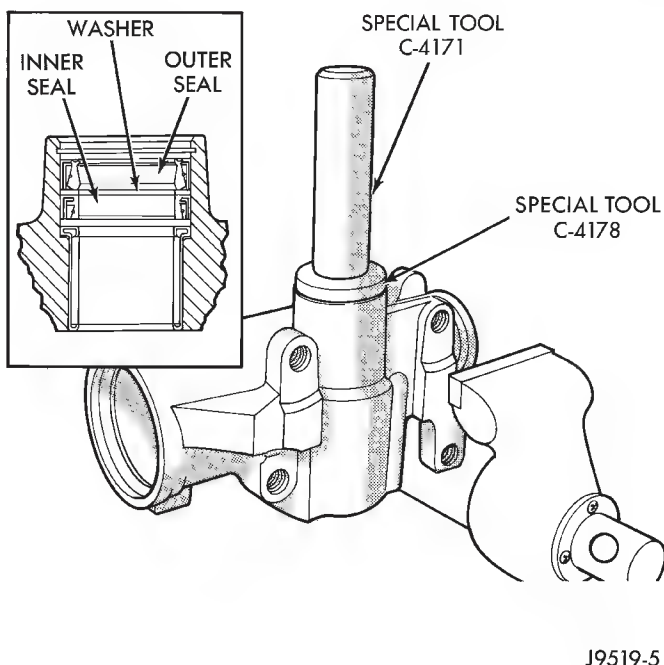

Fig. 39 Pitman Shaft Seal Installation
- (2) Install single lip seal with tool C-4178 and handle C-4171 or a suitable size socket (Fig. 39).
- (3) Coat the double lip seal and washer with grease.
- (4) Install the backup washer.